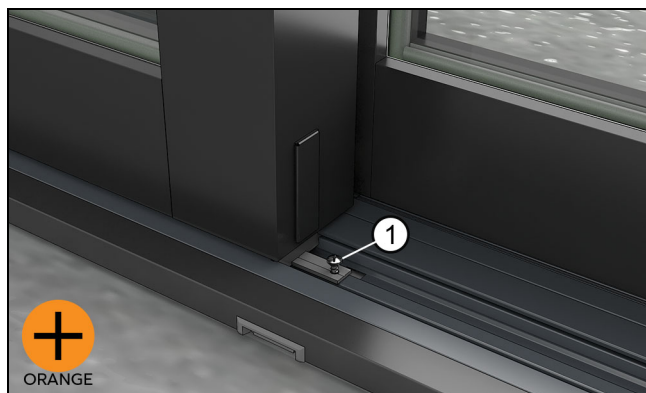

Figure 82
7. Install #8 x 7/16" Phillips self drilling screws through the bottom stationary bracket into the sill. See Figure 82